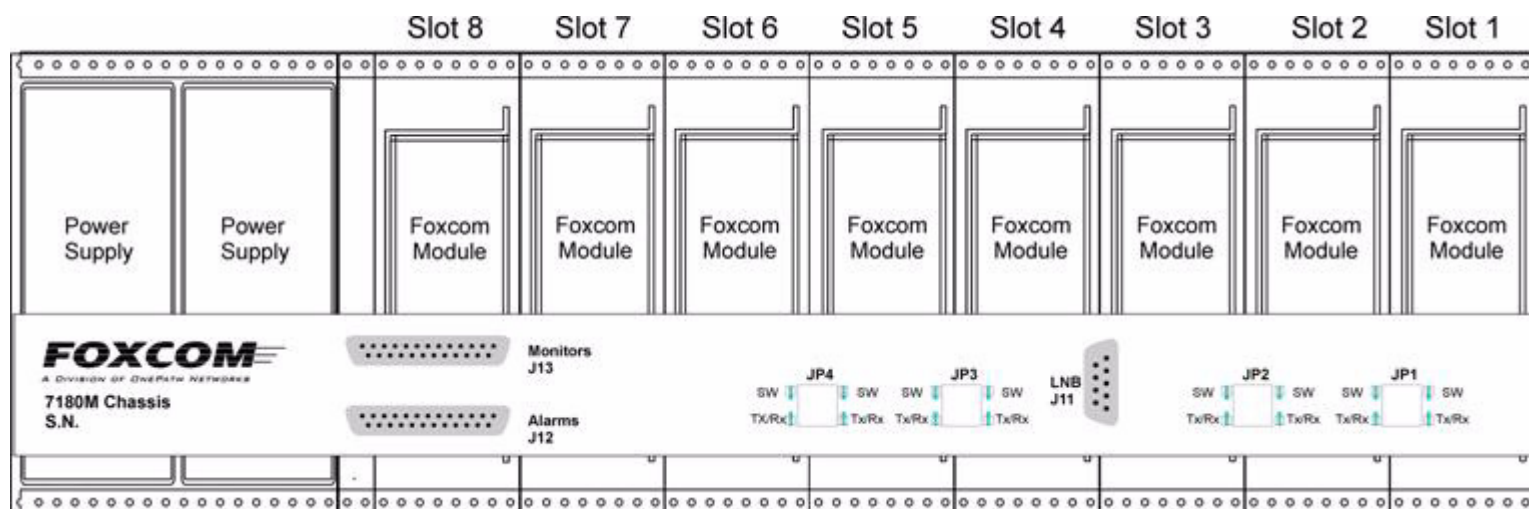

Figure 7 7180M Chassis Rear View
1. Place the **7830R** Receiver in any of the 7180M Chassis, unless a 2040 RF Switch is installed. (See **Figure 7 7180M Chassis Rear View** on page 12)